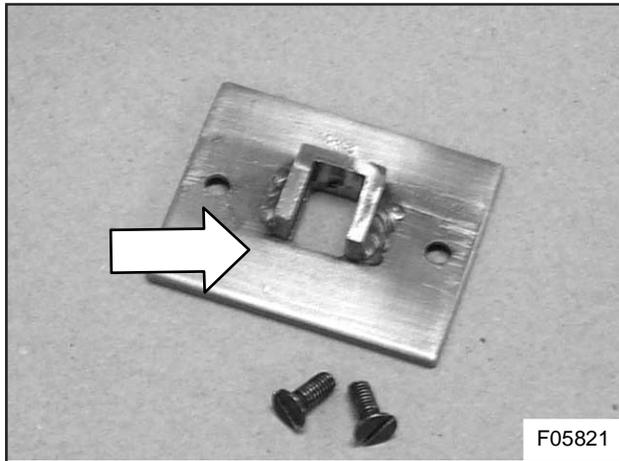

Figure 35: Deadbolt guard VH 10756499 and mounting screws VH 10678337
- 2) Center punch and drill the two scribed holes with a 3 mm drill bit. Tap the holes with a 4 mm tap. Reinstall the deadbolt guard. Apply a few drops of Loctite 270.1 on the threads of the two mounting screws VH 10678337. Run up the screws and tighten to a torque of 21 in.lbf (2.4 Nm). Figure 35 shows the completed installation.